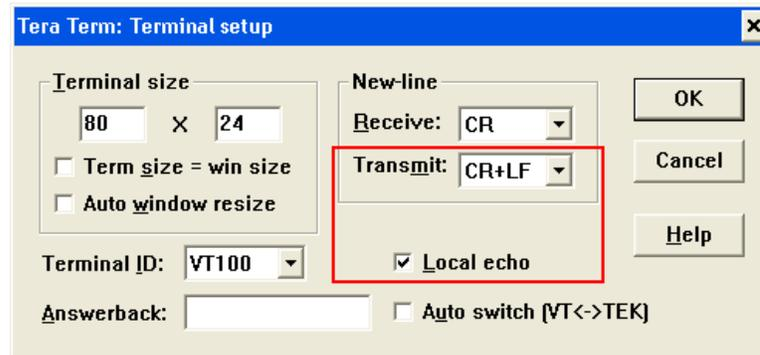

Figure 12: Tera Term Terminal Setup
6. Select the check box labeled Local echo and select CR+LF from Transmit drop-down list under New-Line menu (Figure 12).